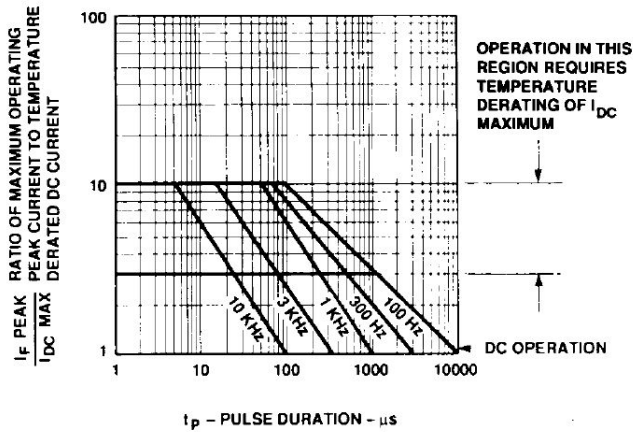

Figure 1. Maximum Tolerable Peak Current vs. Pulse Duration – HER Series.
1. See Figure 1 to establish pulsed conditions.